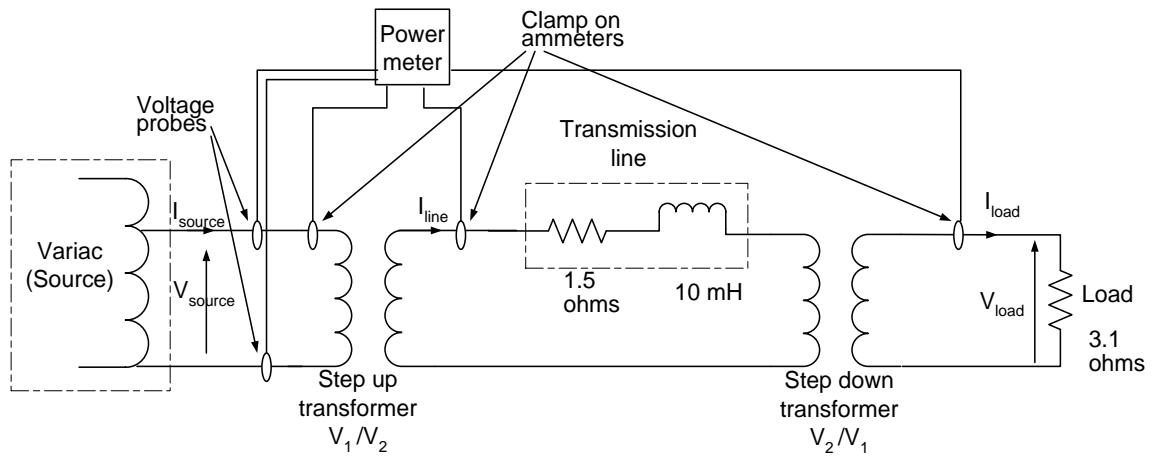

Figure 2: A laboratory scale power system model
- 6.1.2. Connect the circuit as shown in Figure 2. **Have your circuit checked by the laboratory demonstrator.**